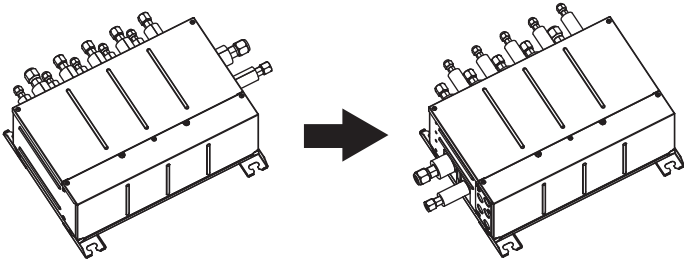

Fig. 4-5
4.1. The direction of the piping can be changed (Fig. 4-5)